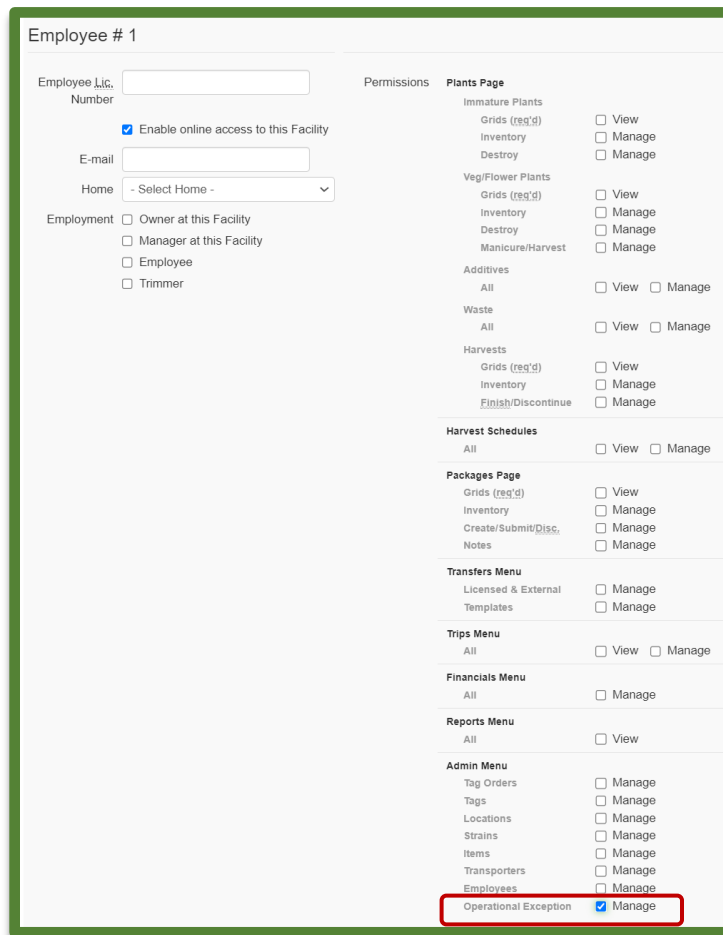

Figure 5: Permission for Operational Exception for a user
1. Confirm that the employee who will be utilizing this functionality has Operational Exception permissions granted by the Metric admin as shown in **Figure 5**. This can be done by selecting Employees under the Admin area on the navigational toolbar.